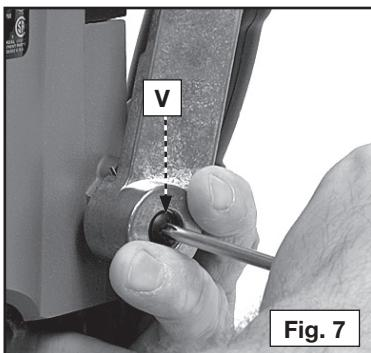

Fig. 7
1. Hold the lever in the upright position (see Fig. 7). Use a phillips screwdriver to remove retaining screw (V) Fig. 7. Continue to hold the lever through the remaining steps.